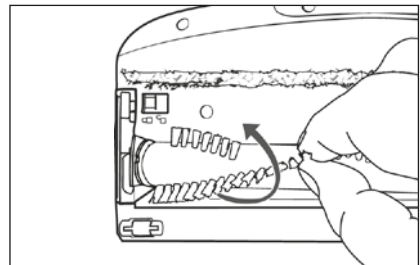

Fig. 25
- 3) Pull the rotary brush **21** out of the floor brush **22** by the bristles. Turn the rotary brush **21** slightly to make it easier to remove (see Fig. 25).